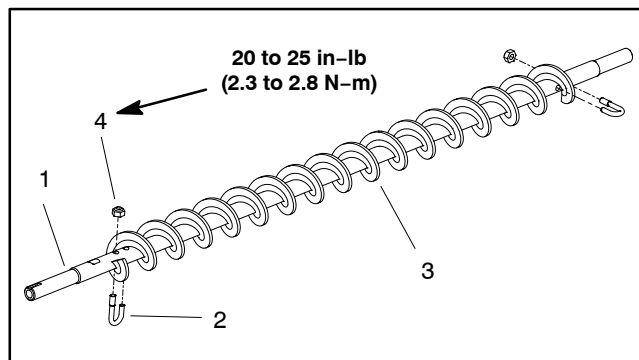

Figure 42
C. Remove the LH brush support (item 15), bearing and locking collar from brush shaft and cutting unit.
D. Remove lock nut and J-bolt from both ends of the brush (Fig. 42).
1. If roller brush was removed from brush shaft, slide brush onto shaft while rotating brush. Secure brush to shaft with two (2) J-bolts and lock nuts. Make sure that the J-bolts are installed with the threaded portion on the outside of the brush (Fig. 42). Torque lock nuts from **20 to 25 in-lb (2.3 to 2.8 N-m)**.